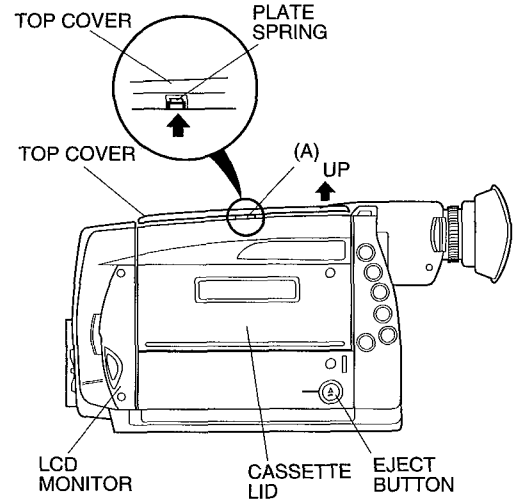

Fig. 3-1
- (1) Open the LCD monitor. (See Figs. 3-1, 3-2)
- (2) Lift the top cover at the right side (near the section of the arrow), to provide a gap. (See Fig. 3-1)
- (3) Insert a flat-bladed screwdriver into section (A), and jump the plate spring to release the top cover in the direction of the arrow. (See Figs. 3-1, 3-2)